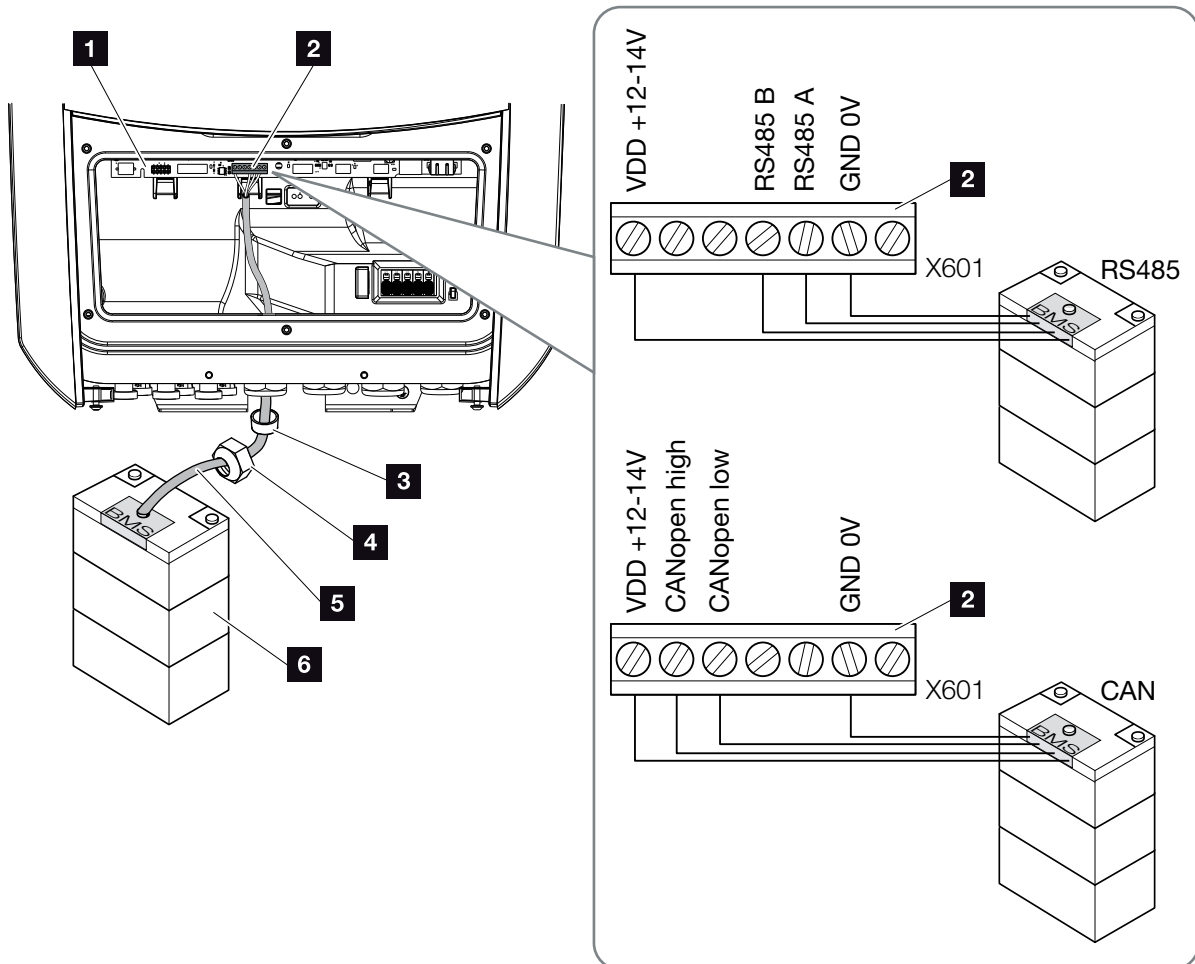

Fig. 35: Battery communication connection via RS485 or CAN
3. Connect communication cable (RS485 or CAN) to communication interface of Smart Communication Board.  **Fig. 35, It. 2**